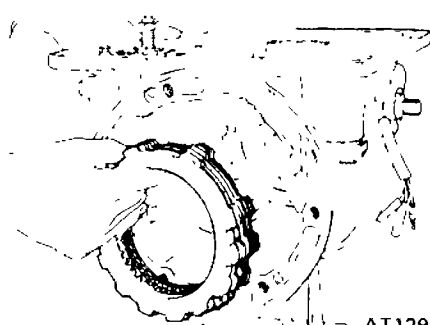

Fig AT-63 Removing drive and driven plates
- 17 Pry off snap ring using a pair of pliers. Remove retaining plate, drive plate, driven plate and dish plate in that order. See Figure AT-63.